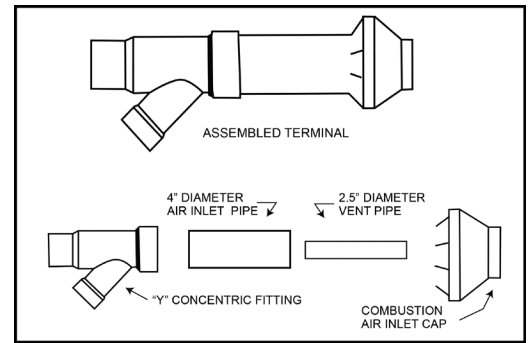

Figure 1 - Vent Terminal Assembly
(see Fig. 1).
- b. Cement rain cap to smaller diameter kit pipe (see Fig. 1).